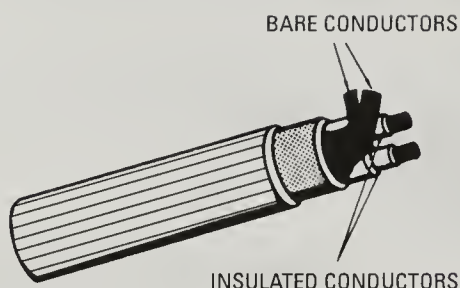
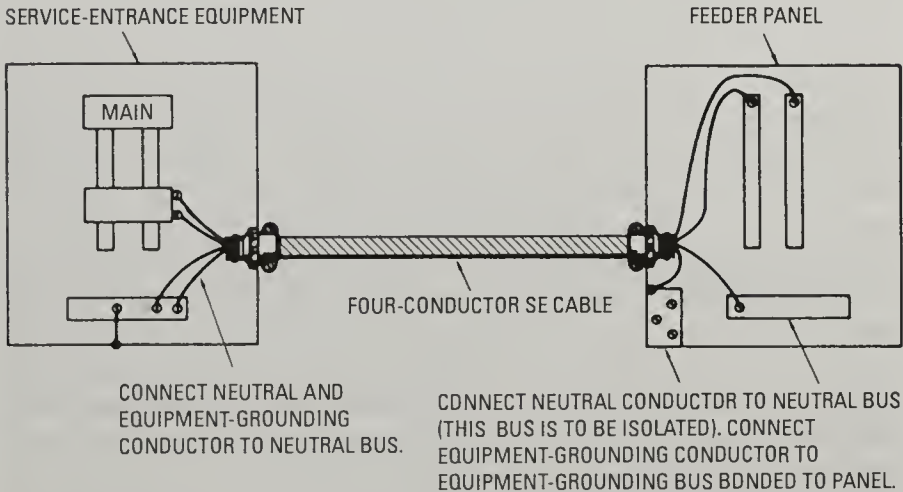

Figure 4-21 SE cable with a bare neutral conductor.
Figure 4-24 SE cable with three insulated conductors and a bare equipment-grounding conductor must be used when supplying a feeder panel.
338.2. Definition. Service-entrance cable is a conductor assembly provided with or without an overall covering, primarily used for services and of the following types: [See Figure 4-21.]
An explanation of this statement is as follows, referring to the Type SE cable illustrated in Figure 4-21. For instance, a 240-volt branch circuit or feeder might be used to supply 240-volt loads that do not require a neutral conductor. These could be electrical heating panels or electrical heating equipment. This would require the use of the two insulated conductors for the 240-volt supply and the bare conductor would be used as an equipment-grounding conductor. You are cautioned to observe this information very closely, because for some reason the use of SE cables seems to be confusing at times.
We find some of the same material here that was previously explained in this chapter. A cable with insulated conductors and one bare conductor, as illustrated in Figure 4-21, may be used as a branch circuit to supply a range, wall-mounted oven, counter-mounted cooking unit, or clothes dryer. A three-conductor cable (SE), with one conductor bare, may be used to supply ranges and the like only when this branch circuit originates in service-equipment panels (Figure 4-23). In case this is confusing, the reasoning is as follows: In the service equipment, the neutral bus is to be grounded to the panel enclosure. Therefore, when the bare neutral of the Type SE cable under discussion is used, hazardous conditions are created, because if the bare neutral happens to touch the enclosure, they are electrically connected together in the service equipment. When supplying ranges and similar appliances from a feeder panel, however, an entirely different condition exists. The neutral bus in the feeder panel is isolated from the enclosure, as shown in Figures 4-24 and 4-25. In Figure 4-24, the service equipment and a feeder panel are connected by a four-conductor SE cable having three insulated conductors and one bare equipment-grounding conductor. In the service equipment the neutral bus is bonded to the service-equipment enclosure, and, in addition, the insulated neutral and the bare equipment grounding conductor of the SE cable are both tied to the neutral bus. In the feeder panel the neutral bus is isolated, and the insulated neutral goes to this neutral bus. Notice that the grounding bus in the feeder panel enclosure is tied to the enclosure, and it is to this bus, not the neutral bus, that the bare equipment-grounding conductor is connected. In case someone thinks this is paralleling the neutral and the equipment-grounding conductor, it should be stated that this is not true. Although these two conductors are tied together in the service-equipment enclosure, they are not tied together in the feeder panel, so they are not paralleled.
Section 338.10(B)(4) allows SE cable with a bare neutral, as illustrated in Figure 4-21, to be used as a feeder. This is not recommended. If you are going to use any type of cable as a feeder, use an insulated neutral and a bare equipment-grounding conductor. The cost difference between the cables is minimal, and the use of bare neutrals is fraught with difficulty. A detailed explanation follows: